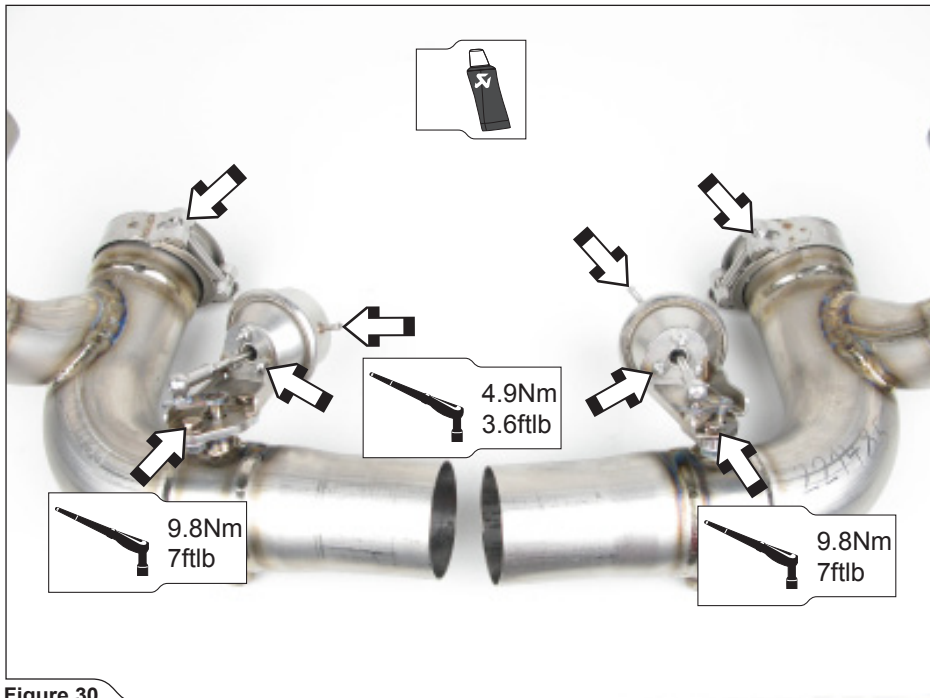

Figure 30
12. **For Evolution:** attach the Akrapovič metal clamps onto link pipes as shown (**Figure 30**). Assemble the vacuum cylinder brackets and vacuum cylinders onto Akrapovič link pipes as shown (**Figure 30**). Use stock bolts and nuts.